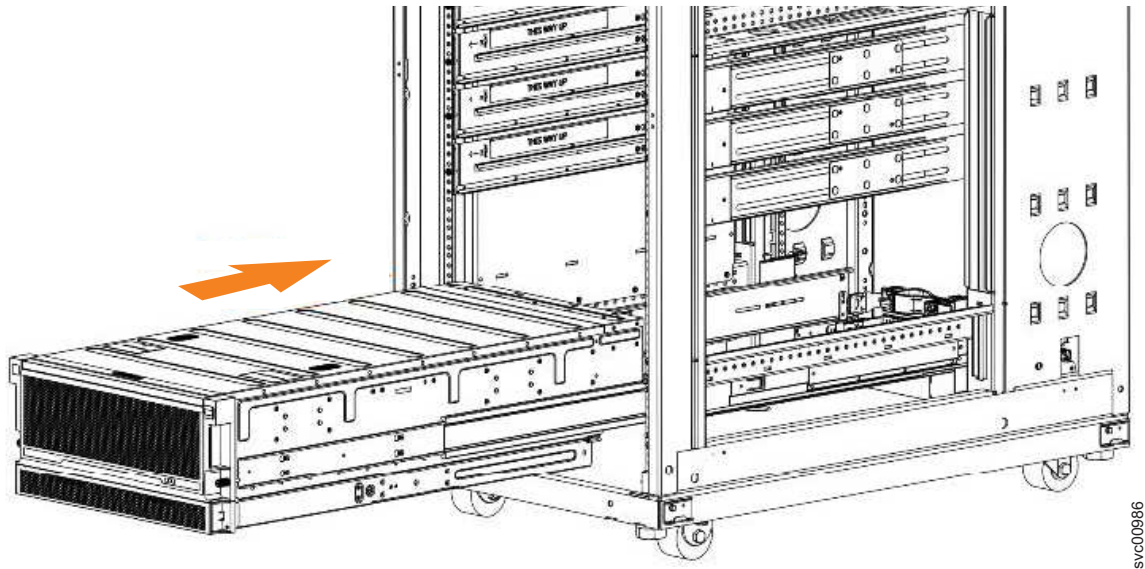

Figure 57. Example installation of the enclosure in the rack
- Install the expansion enclosure in the lowest position in the rack. Figure 57 shows an example.